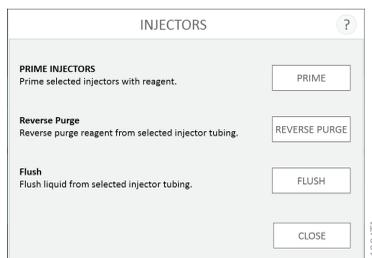

Figure 112. Injector functions (prime, reverse purge and flush).
5. Tap the **Prime** button shown in Figure 112. The door will open.
1. Tap the **Start...** button adjacent to the Reverse Purge option on the Injectors screen (Figure 112). The door will open.
2. Tap the **Flush** button on the 'Injectors' screen (Figure 112). The door will open.